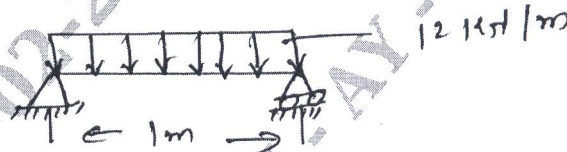

Fig. Q8 (b)
b. Fig. Q8 (b) shows a simply supported beam subjected to a uniformly distributed load. Obtain the maximum deflection. Take Young's modulus  $E = 200$  GPa and moment of inertia  $I = 2 \times 10^6$  mm4.